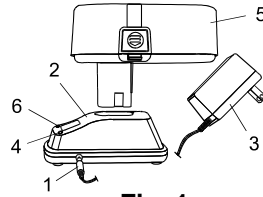

Fig. 1
2. Insert small charger plug (1) into charger stand (2) and plug the battery charger (3) into the 110–120 V 60 Hz wall receptacle (see Fig. 1).